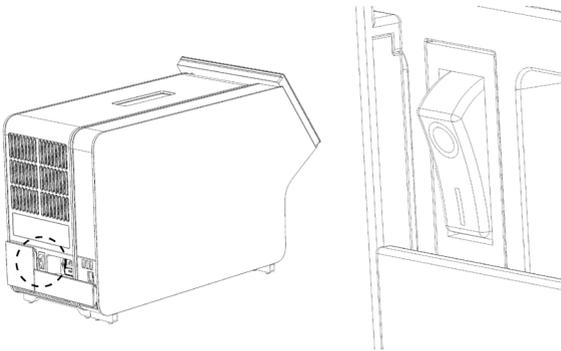

**Figure 7. Connecting the power cord.**
7. Connect the power cord that was delivered with the QIAstat-Dx Analyzer 1.0 to the back of the Analytical Module (Figure 7).